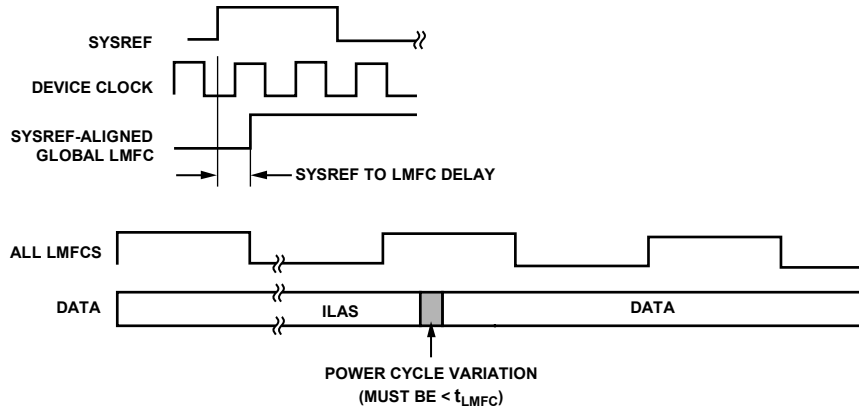

Figure 70. SYSREF± and LMFC
The JESD204B protocol organizes data samples into octets, frames, and multiframe, as described in the Transport Layer section. The LMFC is synchronous with the beginnings of these multiframe. In Subclass 1 operation, the SYSREF± signal is used to synchronize the LMFCs for each device in a link or across multiple links (within the AD9094, SYSREF± also synchronizes the internal sample dividers) (see Figure 70). The JESD204B receiver uses the multiframe boundaries and buffering to achieve consistent latency across lanes (or even multiple devices), and to achieve a fixed latency between power cycles and link reset conditions.
- The total latency variation across all lanes, links, and devices must be ≤ 1 LMFC (t_{LMFC}) period (see Figure 70). This total latency includes both variable delays and the variation in fixed delays from lane to lane, link to link, and device to device in the system.